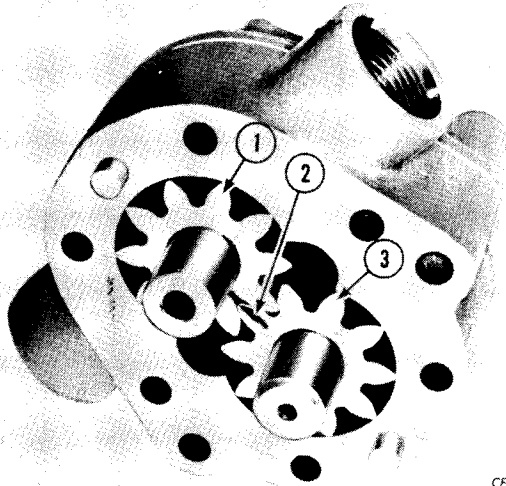

Figure 3-50
Place mating marks (2, Fig. 3-50) on the gear assemblies (1 and 3) so they can be reinstalled
Wrap the splines of the drive gear (1, Fig. 3-50) with masking tape. Lubricate the oil seal with multi-purpose grease. Slide the gear into the body. Install the driven gear (3) making sure the reference marks (2) are aligned. Remove the tape.